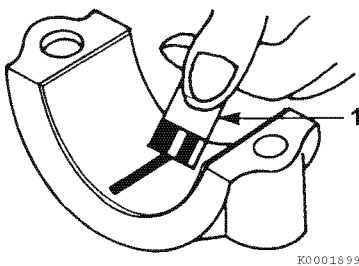

Figure 6-52
7. Compare the width of the flattened PLASTIGAGE (Figure 6-52, (1)) to the graduation marks on the package. The mark that most closely matches the width of the flattened PLASTIGAGE will indicate the bearing oil clearance. Record the measurements. See *Crankshaft on page 6-8*.